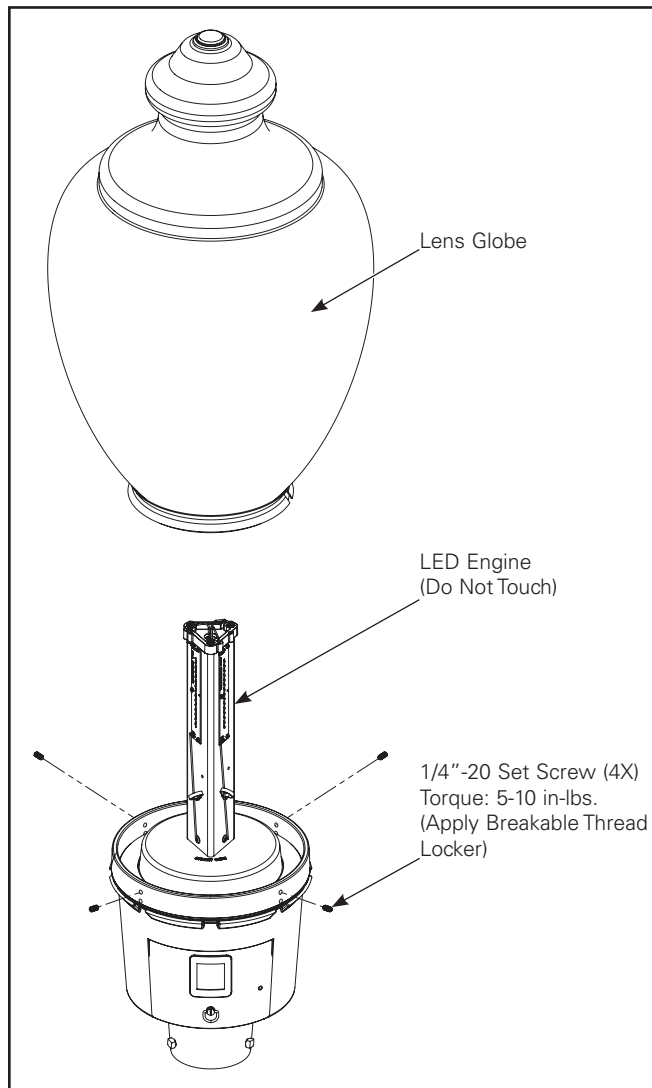

Figure 4.
7. To complete construction, attach lens globe over LED light engine making sure to avoid contact between Lens globe and LED boards. Tighten four set screws to 5-10 in-lbs. (Figure 4.)